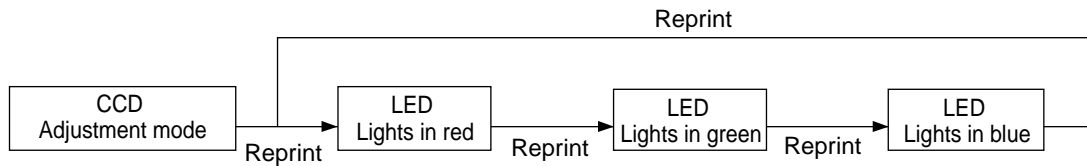

Fig. 4 Adjustment mode sequence
- The LED repeatedly lights in green, blue, and red when you press the Reprint button. (See Figure 4.)